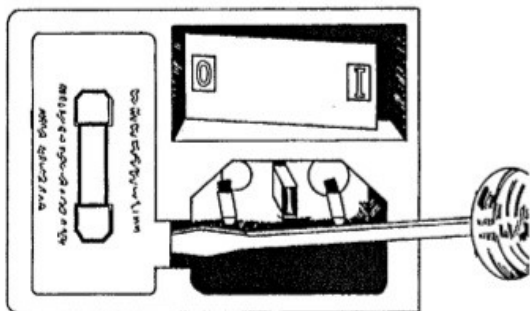

Fig. 10-1 Removing Fuse Block
2. Use a screwdriver blade to withdraw the fuse block (Fig. 10-1).